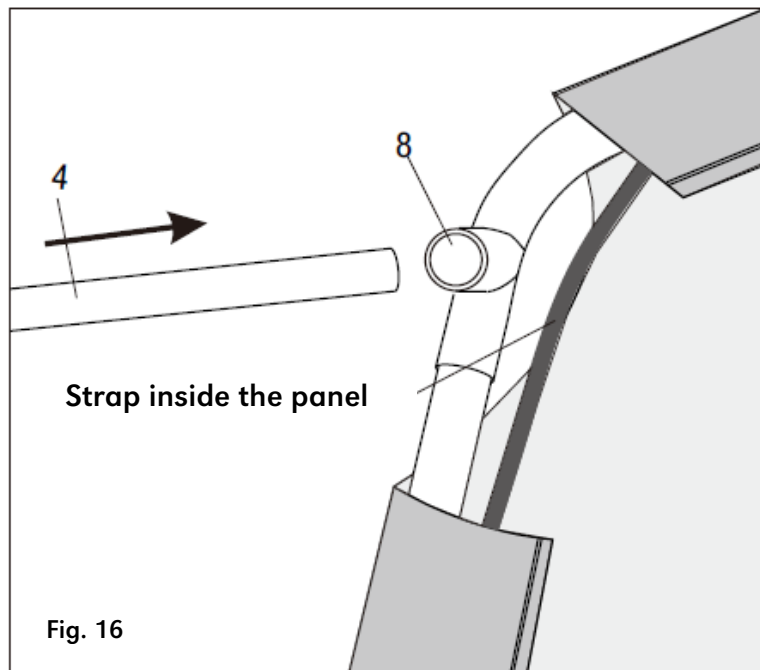

Fig. 16
Attach the other two corners of the front door panel (20) to the 3-way side connectors (7, 8) in the same way (fig. 16).